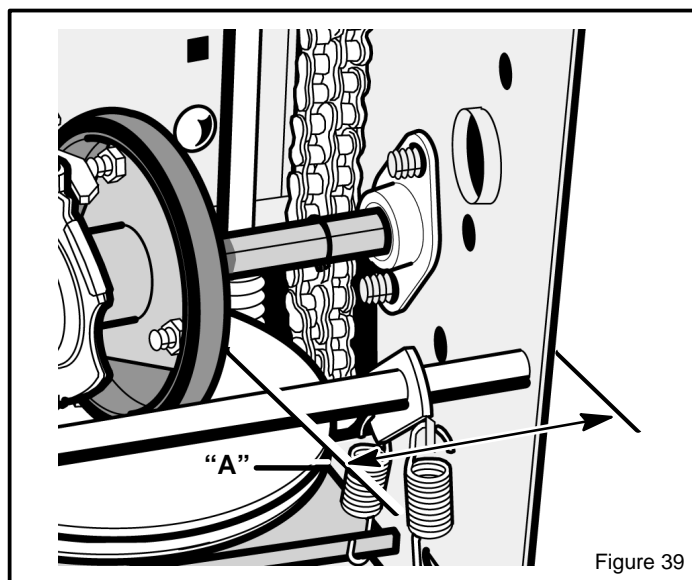

Figure 39
6. Note the position of the **friction wheel** (see Figure 39). The correct distance "A" from the right side of the **friction wheel** to the outside of the motorbox is as follows:
3. Move the **friction wheel** to the correct position (see Figure 39).